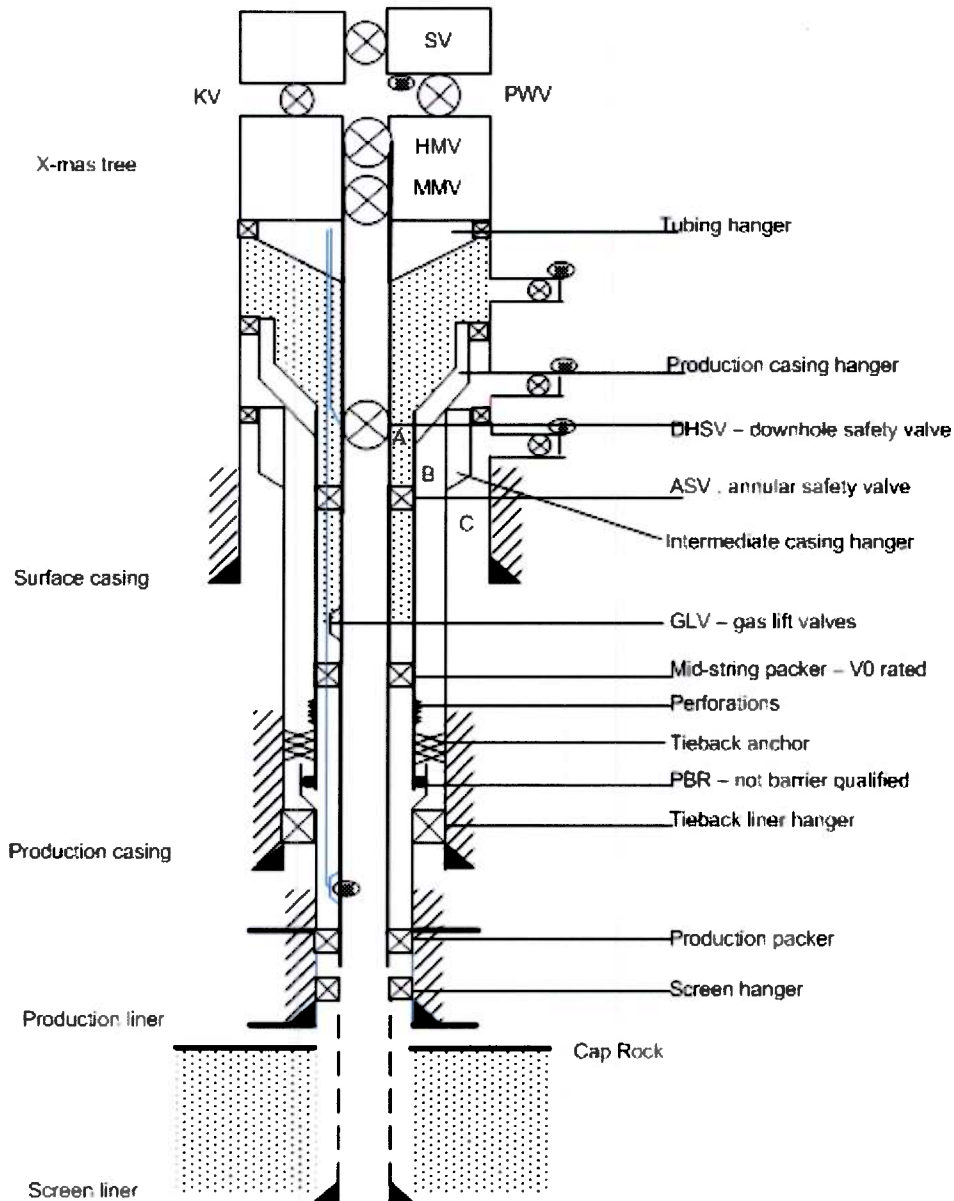
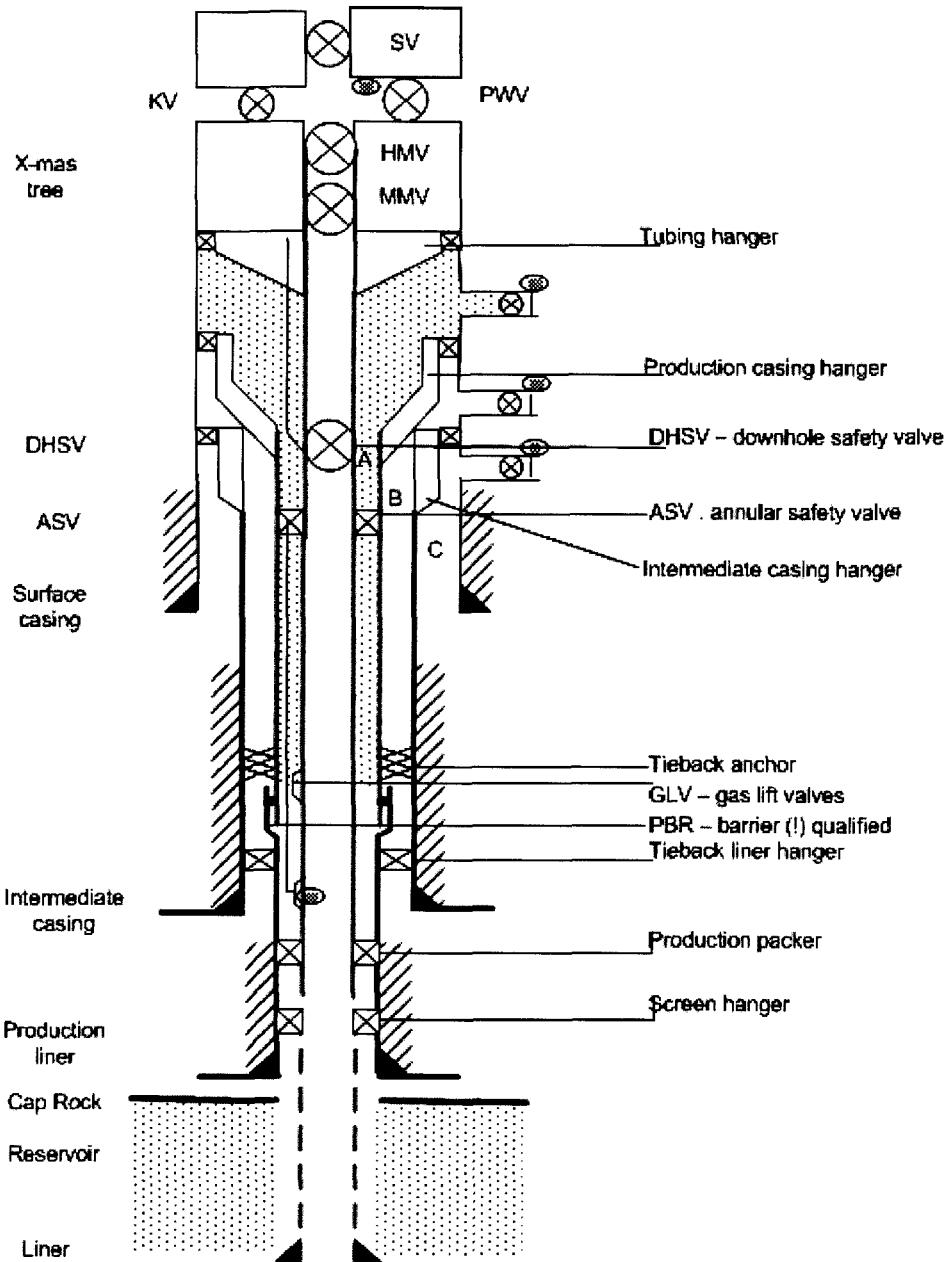

Figure IV-1 – Oil producer with gas lift and tieback production casing. PBR not barrier qualified.
Figure IV-2 – Oil producer with gas lift and tieback production casing. PBR barrier qualified.
Gas lift designs for these wells are challenging because of the production tieback casing, that is utilized. At the tieback point different methods may be applied to tie back casing to the 9 5/8 inch tieback liner and to adapt the completion string. Figure IV-1 presents a method without barrier qualified polished bore receptacle (PBR) yet with a mid-string packer between gas lift valves and production packer, while figure IV-2 shows a solution (yet to be verified) with barrier qualified PBR. Gas lift valves are not qualified as well barrier elements!
- a) Please draw well barrier schematics for the primary barrier into Figure IV-1 and IV-2!